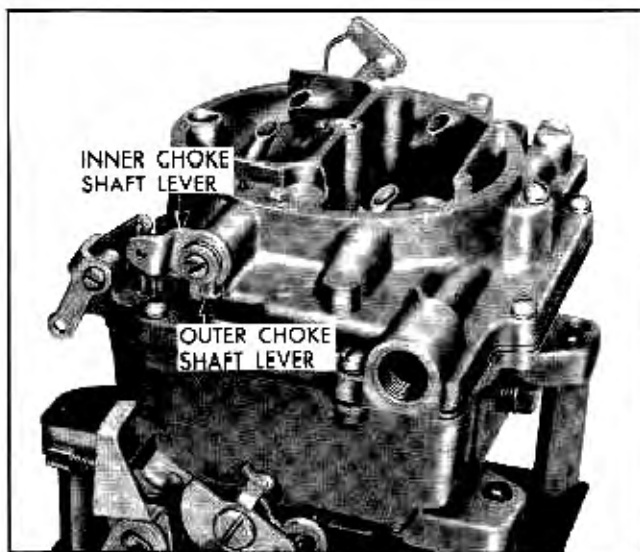

Fig. 6B-93 Choke Shaft Levers Installed
10. Install inner choke shaft lever, washer, and outer choke shaft lever on end of choke shaft (Fig. 6B-93).